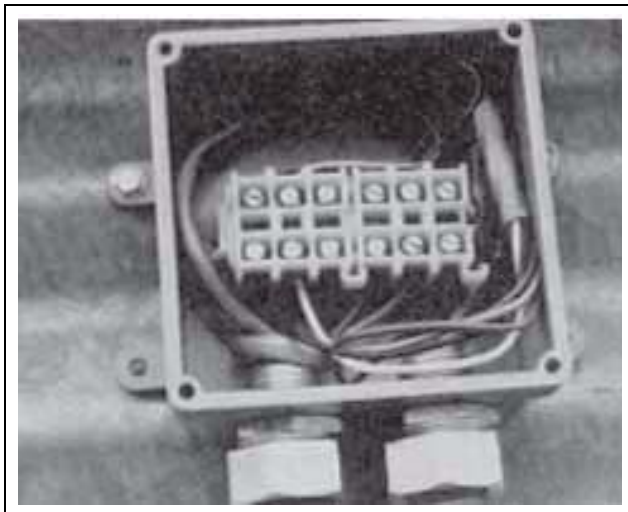

Figure 16I
11. Measure and cut the 1/2" conduit needed to reach from the 4 x 4 junction box to the Calc-U-Dri control box, leaving enough for a drip loop under the box. Cut the five-strand sensor wire about 3' LONGER than the conduit. Feed the sensor wire through the conduit and connect the liquid tite to the two (2) boxes using the connectors provided.
12. Connect the Calc-U-Dri sensor wires in the 4 x 4 junction box to the top of the terminal strip. The leads from the sensor flag go to the top of the terminal block. BE CAREFUL to match the color coded wires to each other, red to red, etc. (See Figure 16I.) Then attach the junction box lid. This completes the Calc-U-Dri sensor mounting for units with vertical discharge auger tubes. Go to Step 14.